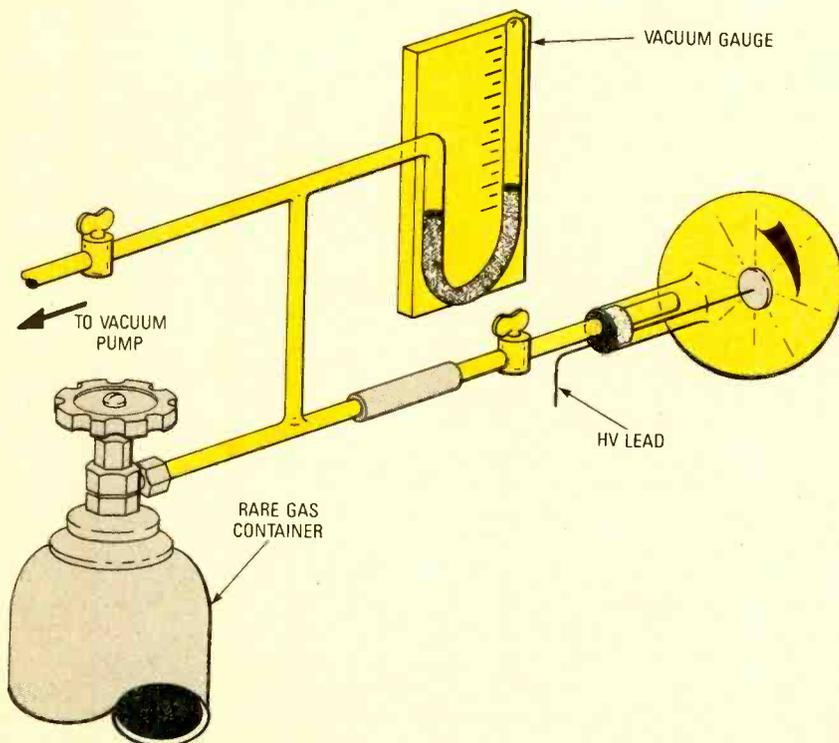

Fig. 6. Small amounts of rare gases were introduced into the plasma globe using this set up. A high voltage was then applied to study the effects of the gas.
I next used the set up shown in Fig. 6 to study the effects of rare gases on the display. Gas suppliers have laboratory-size lecture bottles of neon or xenon, or even smaller sample bottles under very light pressure. The latter are not very expensive for neon and quite sufficient. Only a small amount of gas is needed. When such small bottles are used, a pressure reduction valve is not necessary, either.
Exercise. Figure 6 shows two op-amps, both configured as comparators. The voltages that are to be compared are derived from a typical resistive network (known as a voltage divider), consisting of R1 and R3 for the negative (inverting) input. The positive (non-inverting) inputs for U1-a and for
Fig. 6. In this circuit (A), the voltages that are to be compared are derived from typical voltage-divider networks: R1 and R3 for the inverting inputs; and the R2/R4 and R6/R5 combinations, for the non-inverting inputs. Shown in B is the pinout diagram for the 324 quad op-amp.